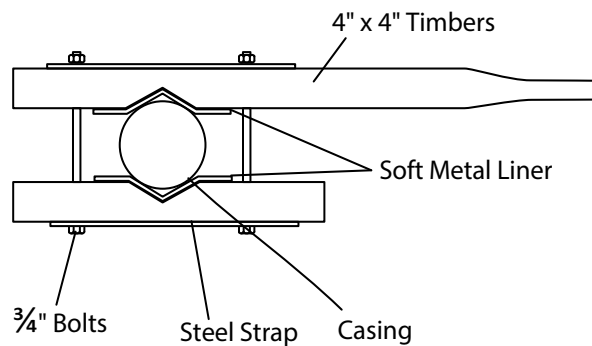

Figure 7 - Casing Clamp
3. Fasten a clamp with a handle around the outside of the lower section of the casing about 2' from the top. See Figure 7. Take care not to over-tighten.